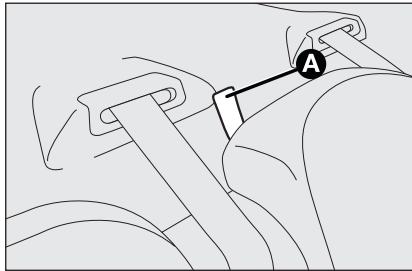

fig. 90
- pull the two locking devices **A**-fig. 90 upwards to unlock respectively the left or right section of the backrest and then guide the backrest onto the cushion.
- pull the fastening devices **A-fig. 90** upwards to release the backrests and fold them onto the cushion.